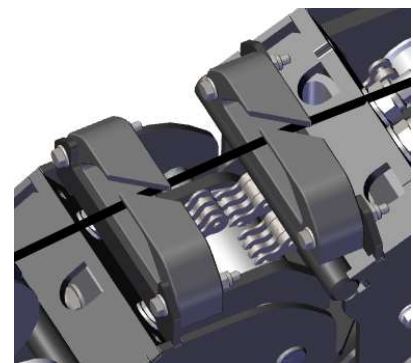

Figure 48
- Now run the cable through the diagonal slot of the plastic block on top of the 2nd boom section (see figure 48).
- Now run the cable through the diagonal slot of the plastic block on top of the 3rd boom section (see figure 48).